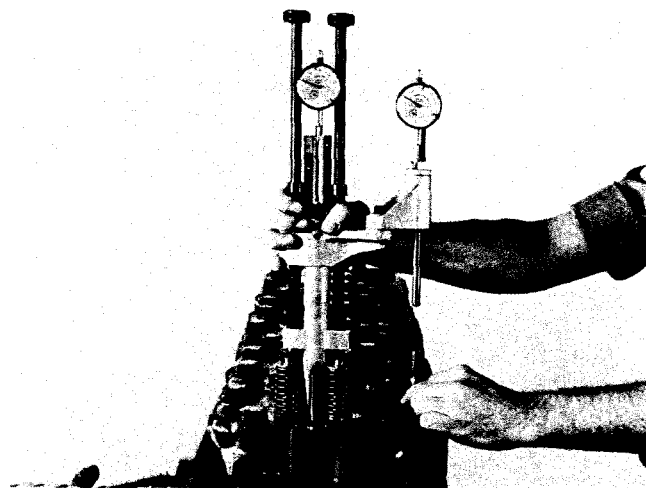

Fig. 14-26, (N114261). Injection timing with ST-593
1. Position ST-593 Timing Tool in injector sleeve. Engage rod of push rod indicator in injector push tube socket. Secure tool in place by tightening knurled hold-downs evenly by hand. Be sure tool is straight in the cylinder. Fig. 14-26.